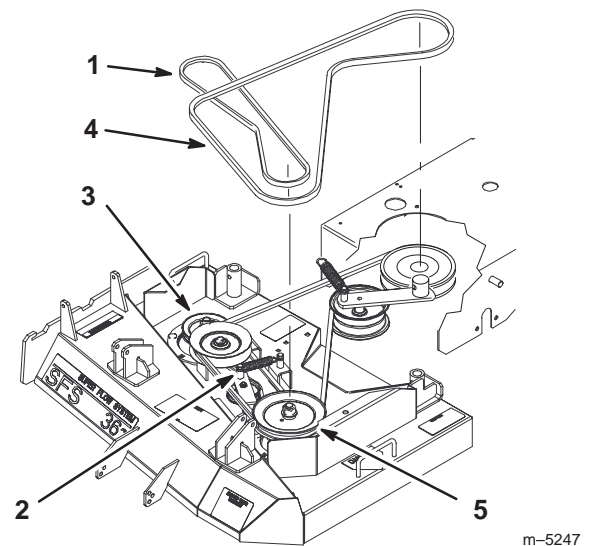

Figure 59
5. Disconnect the idler arm spring to relieve tension on the idler arm and idler pulley, then remove the worn deck belt (Fig. 59).
6. Install the new deck belt around the outward spindle pulley, the idler pulley, and in the lower groove of the double spindle pulley (Fig. 59).
7. Reconnect the idler arm spring (Fig. 59).
8. Adjust deck belt guide an 1/8 in. (3 mm) from belt (Fig. 59).